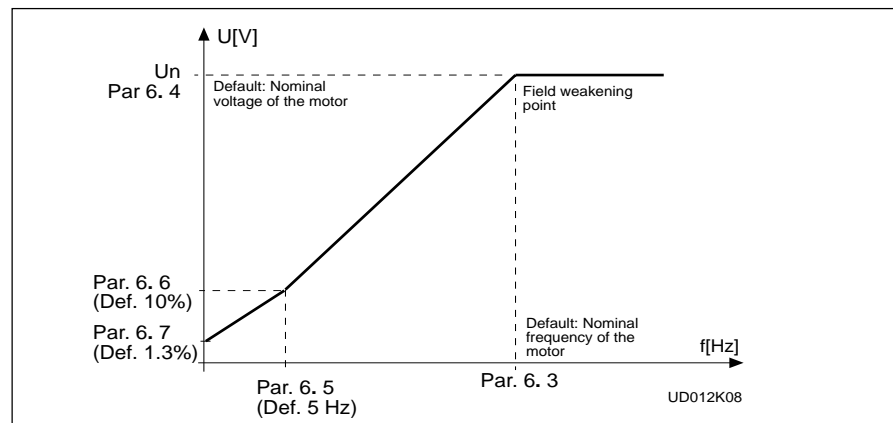

Figure 3.4-2 Programmable U/f curve.
**2** Programm. U/f curve: The U/f curve can be programmed with three different points. The parameters for programming are explained in Chapter 3.5.2. The programmable U/f curve can be used if the other settings do not satisfy the needs of the application. See figure 3.4-2.